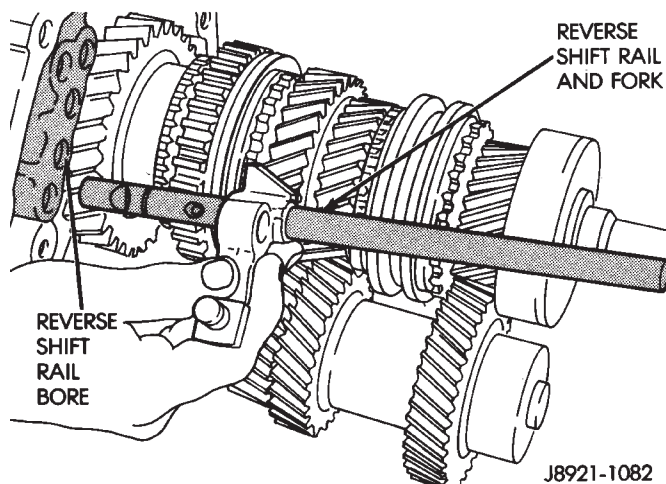

Fig. 83 Install Reverse Shift Rail
- (11) Install the reverse shift rail in the intermediate plate (Fig. 83).